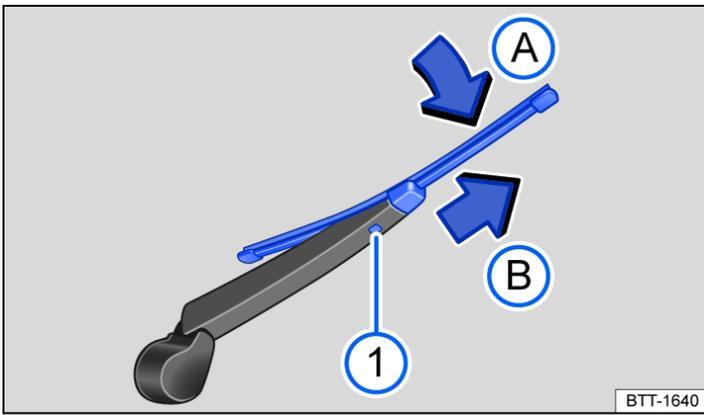

Fig. 2 Changing the rear window wiper blade.
① Unlock button of the wiper blade.
3. Press and hold the release button → *fig. 2* ①.
4. Tilt the wiper blade toward the wiper arm → *fig. 2* ② while removing it in the direction of the arrow ③. You may need to use more force to do this.
5. Slide a new wiper blade with the same length and design onto the wiper arm in the opposite direction to the arrow until it engages → *fig. 2* ④. For this to work, the wiper blade has to be folded out → *fig. 2* ⑤.